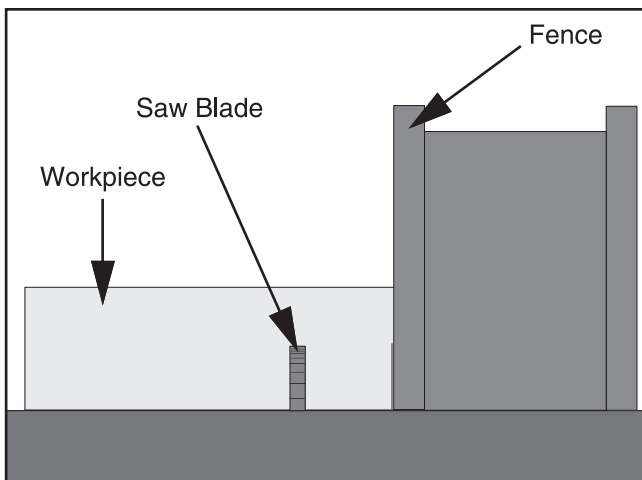

Figure 32. Rabbet cutting with a standard blade.
4. Adjust the fence so the blade is aligned with the inside of your rabbet channel as shown in **Figure 32**.